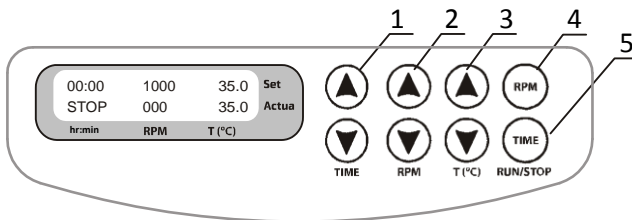
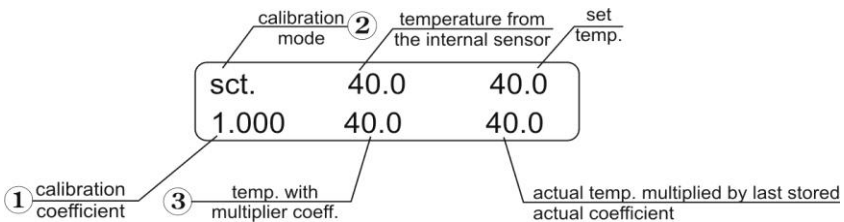

Fig.3 Control Panel
Fig.5 Control panel in calibration mode
- 4.3 With the help of “▲” and “▼” keys Fig. 3/1 set the required working time interval in hours and minutes (increment - 1 min). If the key is pressed for more than 3 seconds, the increment becomes bigger.
- 4.4 With the help of “▲” and “▼” keys Fig. 3/2 set the required speed (increment 10 RPM). If the key is pressed for more than 3 seconds, the increment becomes bigger.
- 4.5 With the help of “▲” and “▼” keys Fig. 3/3 set the necessary temperature (increment 0.1°C). If the button is pressed for more than 3 seconds, the increment becomes bigger.
- 4.7 Press the RPM-RUN/STOP key Fig. 3/4 the block will start rotation and the timer indicator will start counting up the time interval (with 1 min precision).
- 4.10 If required, it is possible to restart the timer when it is running. Press the **TIME-RUN/STOP** key once Fig. 3/5 to stop the timer. Press the **TIME-RUN/STOP** key again to restart the timer.
- 5.2. To enter the calibration coefficient, hold the **TIME-RUN/STOP** key (Fig. 3/5) for more than 8 sec to activate calibration mode. The calibration coefficient will be shown on the display (Fig. 5/1).
- 5.3. Set 1.000 value using the ▲ and ▼ keys (Fig. 3/3) as shown on Fig. 5/1 to restore the factory settings.
- 5.9. Hold down the **TIME-RUN/STOP** key (Fig. 3/5) for more than 8 sec. to activate calibration mode. The following parameters will be shown on the display (Fig. 5):
Using the **Temp. ▲** and **▼** keys (Fig.3/3), change the calibration coefficient (Fig.6A/1) so, that the new temperature value (Fig.6A/2) corresponds to the independent temperature sensor. In our example the calibration coefficient will be 0.974 (in range: 0.936 up to 1.063; increment 0.001).
- 5.11. After finishing the calibration press the **RPM-RUN/STOP** key (Fig.3/4) once to save the changes and exit the calibration mode.